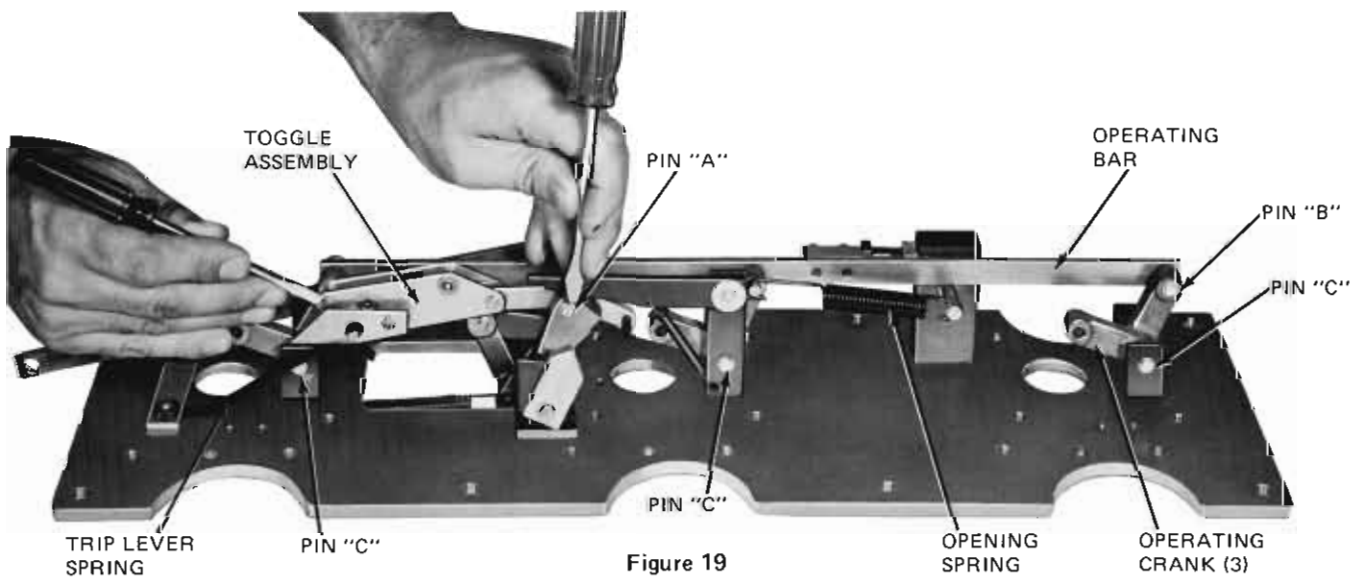

Figure 19
NOTE: The two screws nearest the sleet hood are slightly longer than the others and are used to secure the flat trip lever spring. To remove these screws, first remove hex nuts on the opposite side of the head mechanism support plate. See Figure 19, page 9.
5. Remove C rings pointed out in Figure 19, pull pin "A," and remove toggle assembly.
6. Unhook opening spring, Figure 19, remove C ring, pull pin "B," and remove operating bar. Remove trip-lever spring if this has not been done previously.